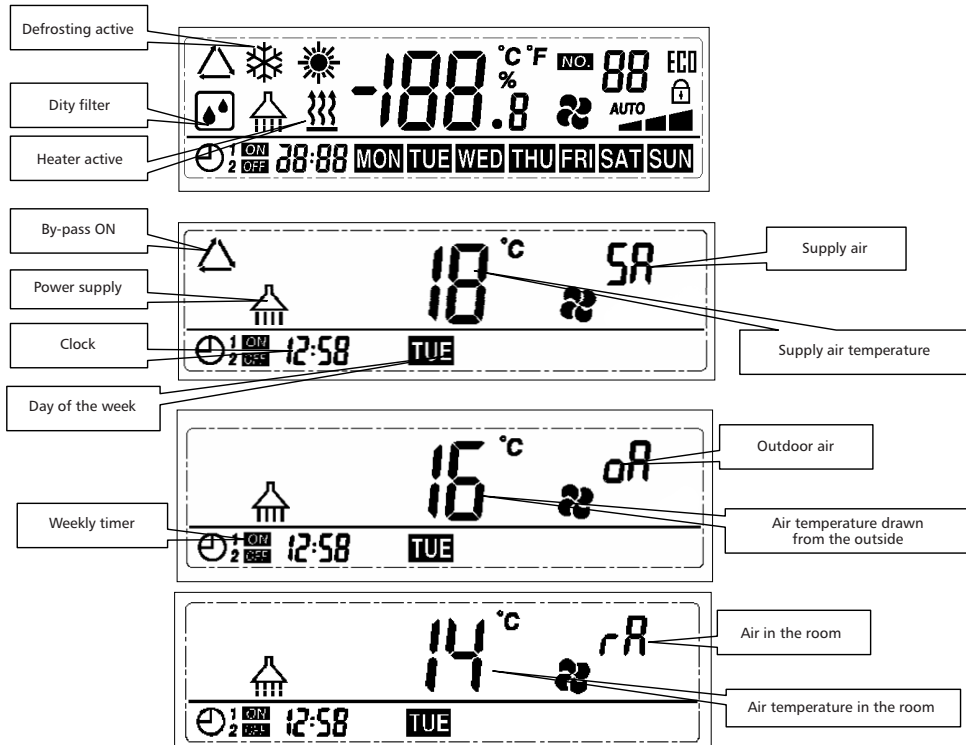

Fig. 7. LCD display panel discription.
4. Check the bypass operation mode. The default working temperature of the bypass is 19-21 ° C (it can be modified by the user). If the outside temperature indicator **oA** is within this range, the by-pass will switch on and the corresponding icon will appear on the display (see Fig.7).